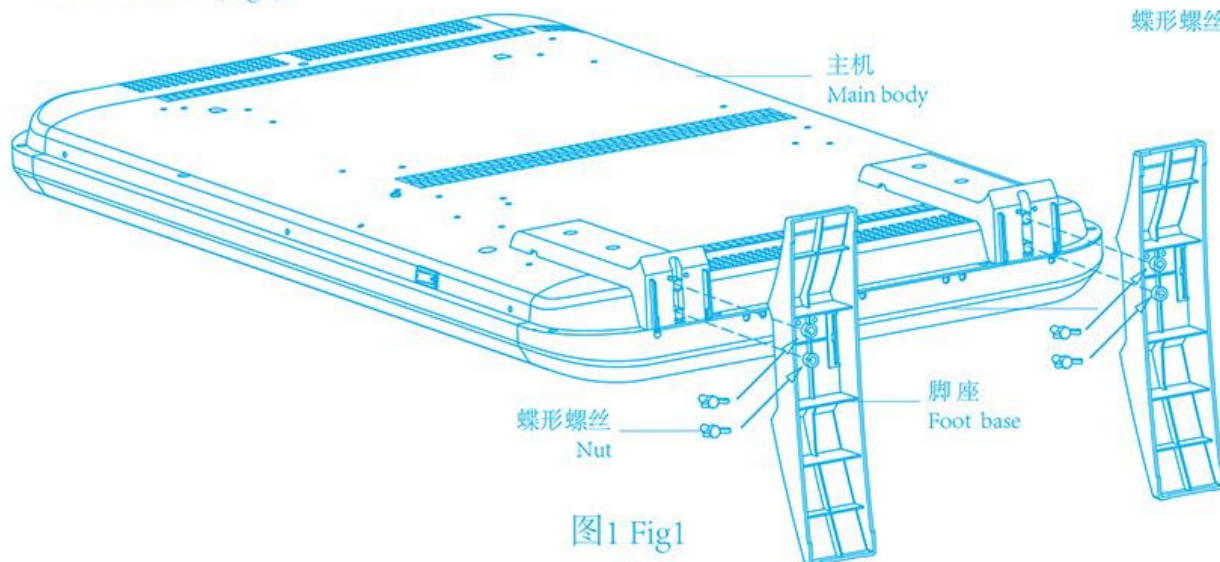

图1 Fig1
- 2、 Remove the foot base and nut,tighten the foot base as centre line to main body make it is fixed,and then tighten the nut in accessory to inside screw,thus to fix the foot base(Fig1);